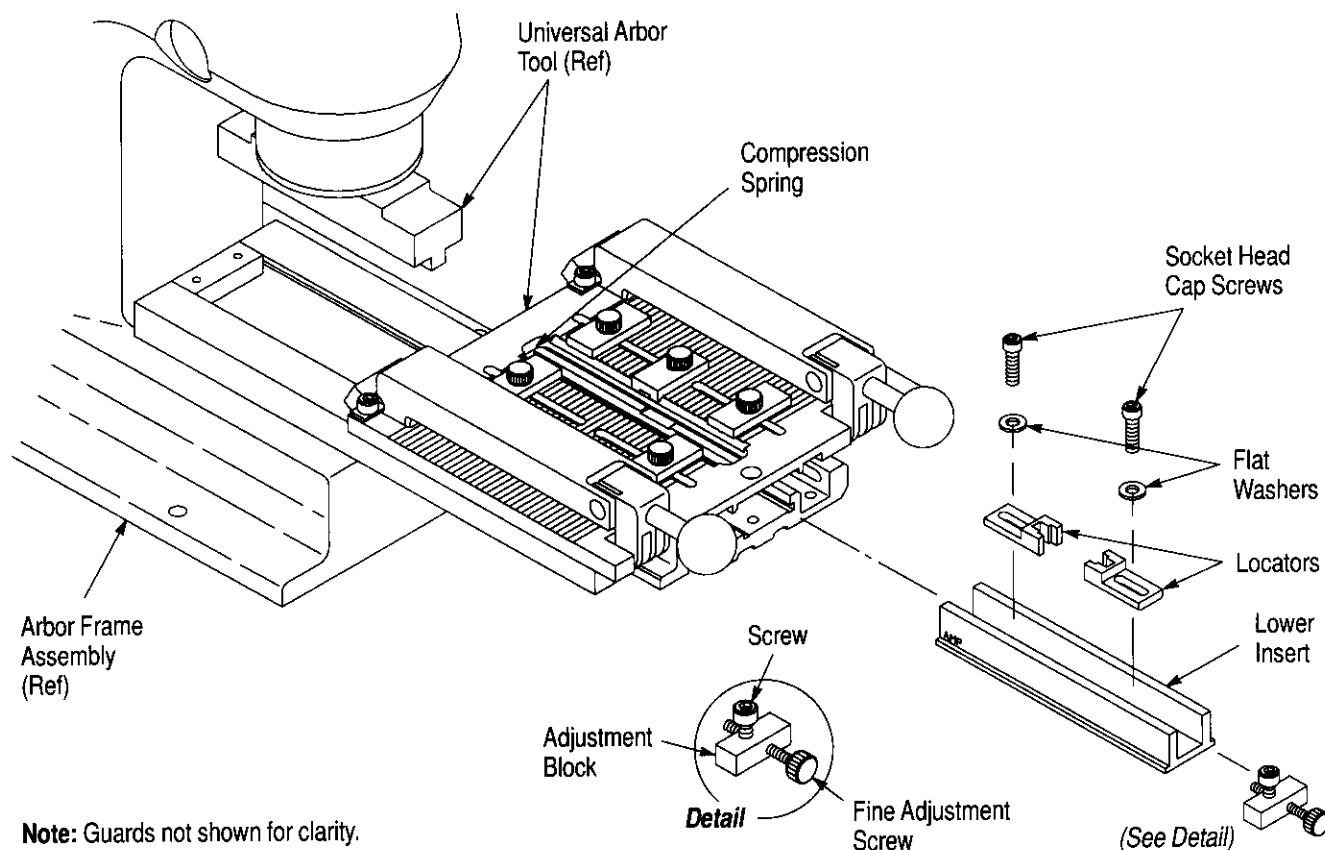

Figure 2
1. Secure the locators onto the lower insert using the flat washers and socket head cap screws. Tighten the screws just enough to hold the locators in place. Refer to Figure 2.
adjustment block. Slide the lower insert onto the base assembly until it is against the compression spring. See Figure 2.
5. Re-assemble the adjustment block. *Make sure* to orient the block so that the fine adjustment screw is closest to the right side and bottom side of the block. See detail in Figure 2.